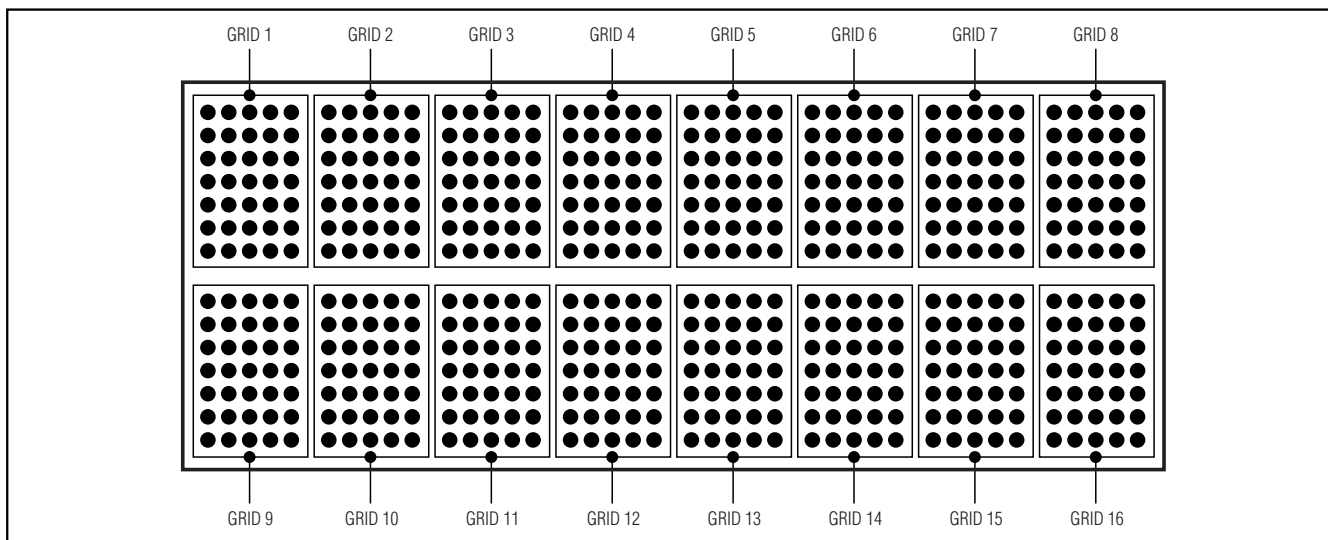

Figure 1. Example of a One-Digit-per-Grid Display
- Multiplexed displays with one digit per grid, and up to 48 grids (in 48/1 mode). Each grid can contain one 5 × 7 matrix character, a DP segment, a cursor segment, and four extra annunciator segments (Figure 1).